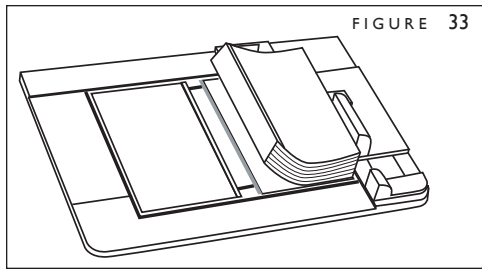

FIGURE 33
3. Set your bound book block into place against the Guide's translucent green stops and press down to fasten the book block to the narrow adhesive area (Figure 33). Your book block is now evenly positioned within the cover.